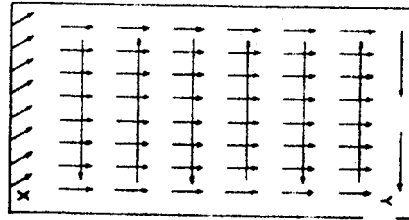

Figure 32. Gymnasium Floor Brush Sweeping.
- (1) Place dustbox and tools at entrance of gymnasium (point "Y," figure 32).
- (2) Clean out radiators with radiator brush.
- (3) Sweep hard-to-reach places with counter brush.
- (1) Start sweeping at point "X" in Illustration and sweep as indicated by arrows, fig. 32.
- (2) Comb floor brush bristles occasionally with nail brush.
- (3) With putty knife, remove gum or dirt sticking to floor.
- (4) Gather sweepings in pile at corner nearest entrance. With counter brush and dustpan, pick up sweepings. Empty dustpan into dustbox.
- (5) Collect sweeping tools.
- (6) When the job is complete, there should be no dust streaks. Areas under and behind radiators or other fixtures should be free from dirt.